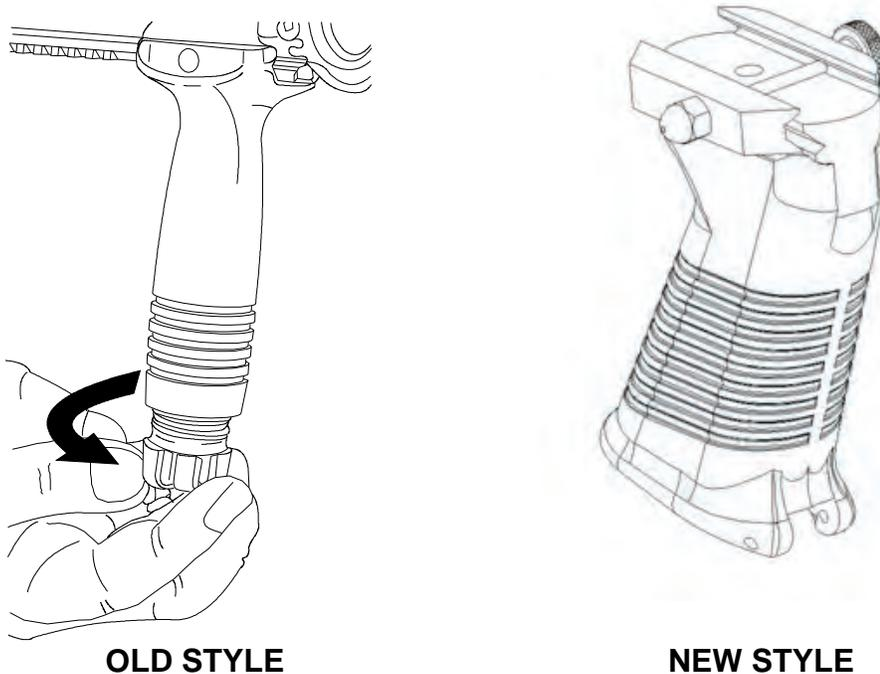

Figure 6
(8) (Figure 6) Tighten the O-ring clutch on the bottom of the vertical pistol grip by turning the clutch to the right.